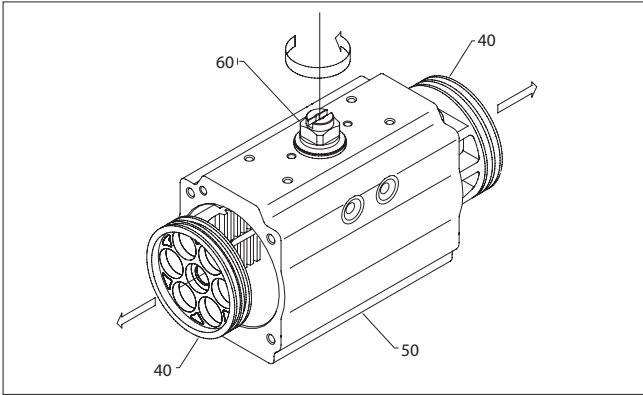

Figure 6.
C. Remove end-cap o-rings (14) and discard if replacing all soft parts.
4. Piston (40) Disassembly, (Figure 6):
- A. Holding the body (50) in a vice (or similar device), rotate the drive shaft (60) until the pistons (40) are released.